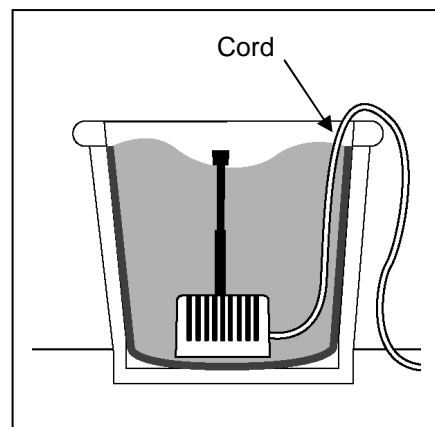

Fig. 5
5. Test fit the assembled container fountain kit in the container. For installing the fountain with the pump cord over the side of the container (recommended), proceed to step 9. For having the pump cord comes out through the container wall, proceed to the next step. Fig. 5